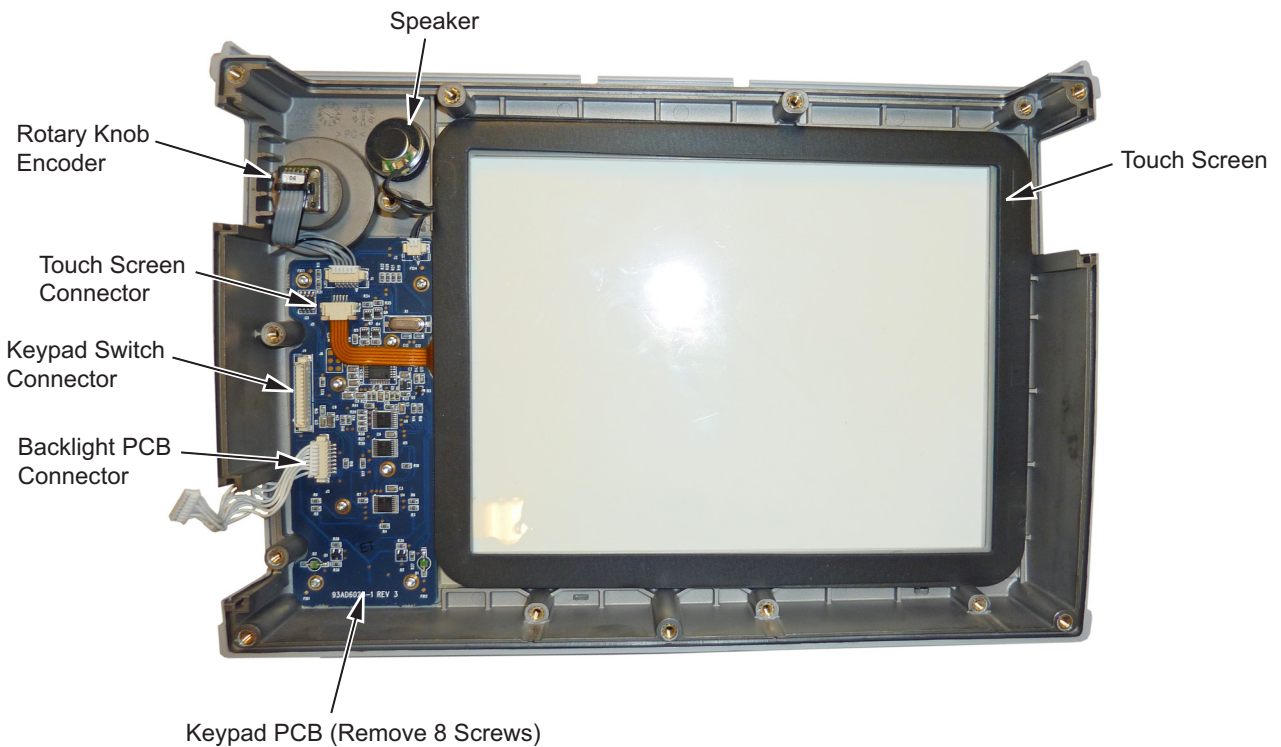

Figure 5-16. Front Panel Keypad Bezel
4. Remove the 8 screws and the cables attached to the keypad PCB allowing removal of the keypad PCB (Figure 5-16). The rubber keypad is located under the keypad PCB.